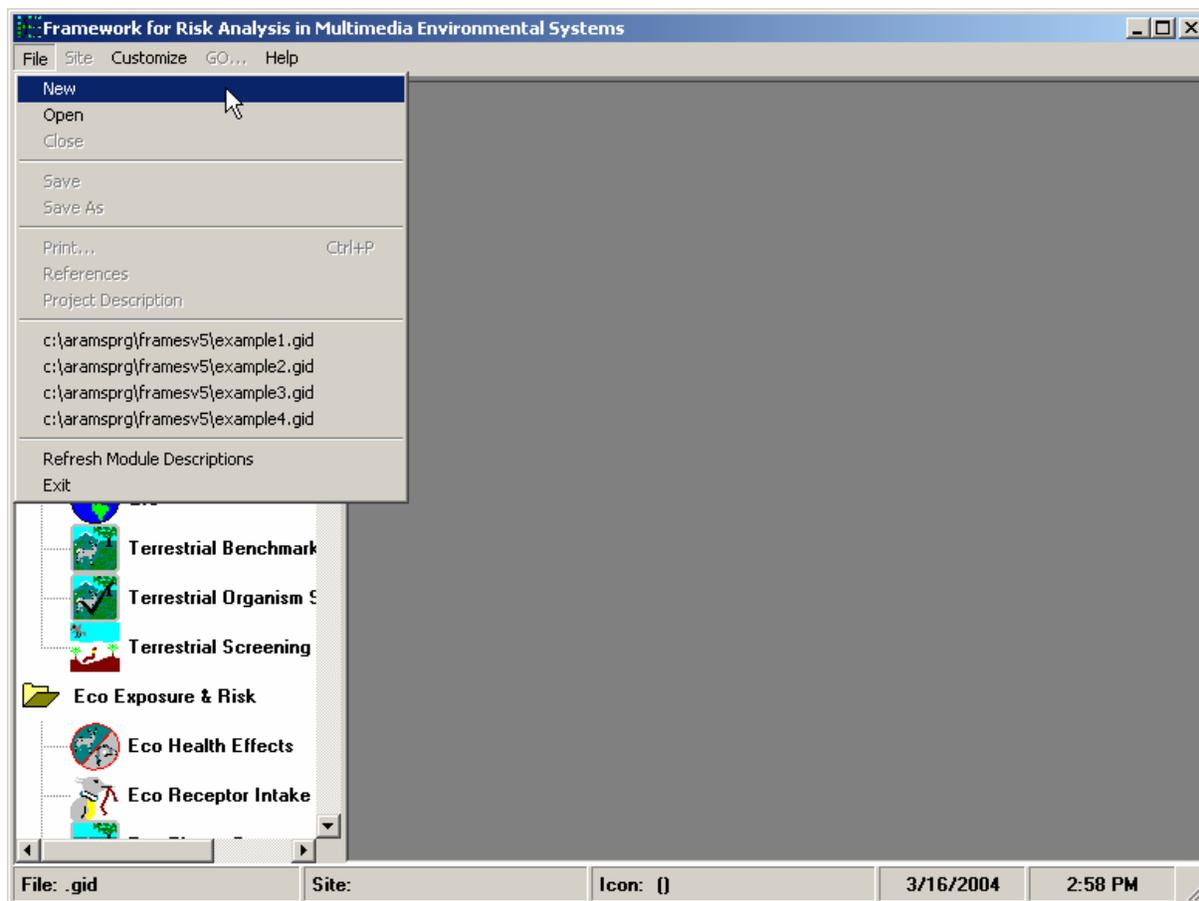

Figure 2. Opening a new file
- While ARAMS/FRAMES is running, click “File” and choose “New” and a window titled “Global Input Data Open New” will appear (see Figure 2). In the “File Name” box, type the project name (type: “Sample5,” maximum of eight characters) and click “Open” (see Figure 3). **Do not name the new file “Example5” because it will write over the existing “Example5” file that was distributed with the tutorial.** A window titled “Create New Site” will appear. Type the project site name (type: Brownfield Site) and click “OK” (see Figure 4).